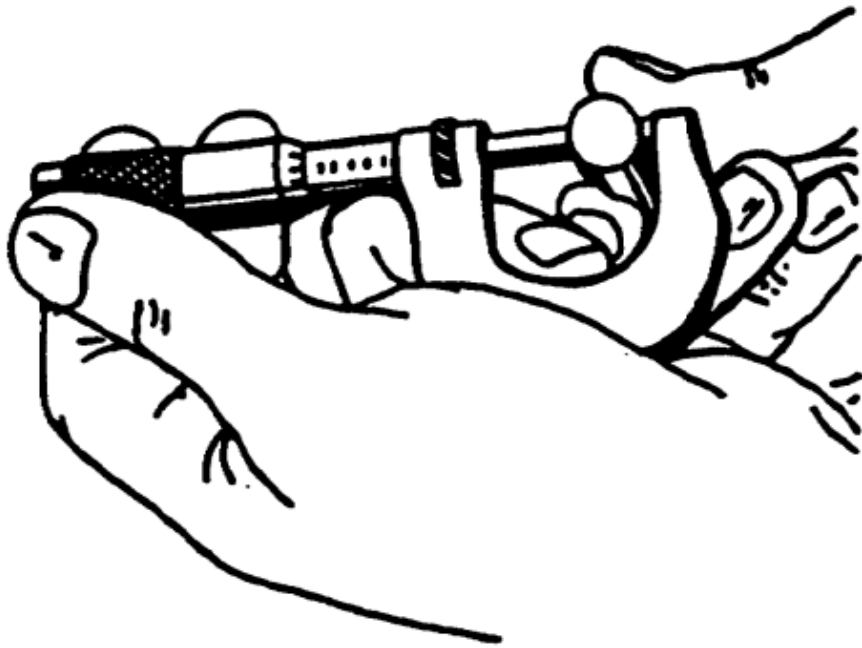

Fig 13
- **Depth Measurements** You can use a depth micrometer to get very accurate depth measurements. Two other types of measuring tools are available for depth measurements. One of these is the rule depth gage; the other is the vernier depth gage. Although you will only learn how to use a depth micrometer in this sub course, we will describe the other two depth gages briefly . This is so that you can be familiar with the tools that might be available to you in the shop. If you want to learn more about using the rule depth gage or a vernier depth gage, look in TM 9-243. Rule Depth Gage. The rule depth gage (figure 13, on the next page) is a graduated rule. You may use it to measure the depth of holes, slots, counter bores, and recesses. This gage has a sliding head designed to bridge a hole or slot. The head holds the rule perpendicular to the surface from which you are measuring. The rule depth gage has a range of zero to five inches. The sliding head has a clamping screw so that it can be clamped in any position. The sliding head is flat. It is perpendicular to the axis of the rule. The head ranges in size from 2 to 2 5/8 inches wide and from 1/8 to 1/4 inch thick.
Measuring Small Parts Figure 13, below, shows how you should hold your hands when you use an outside micrometer to measure a small part. You should hold the part in one hand; hold the micrometer in the other hand. Hold the micrometer so that the thimble rests between your thumb and your forefinger. From this position, you can use your third finger to hold the frame against the palm of your hand. If you support the frame this way, it will be easy to guide the part you are measuring over the anvil. Your thumb and forefinger are in a position to turn the thimble so that the spindle will move over against the part.